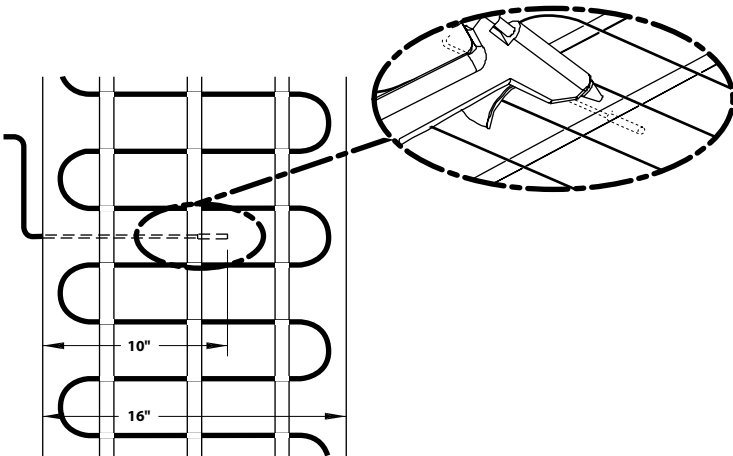

Figure 9
- The floor temperature sensor must be centered between two parallel heating cables under the mat (figure 9). The ideal location is one where it is likely to be away from stationary objects and sheltered from outside influences (sunlight) that could skew floor temperature readings. For maximum comfort, the area above the sensor must be free of obstruction.